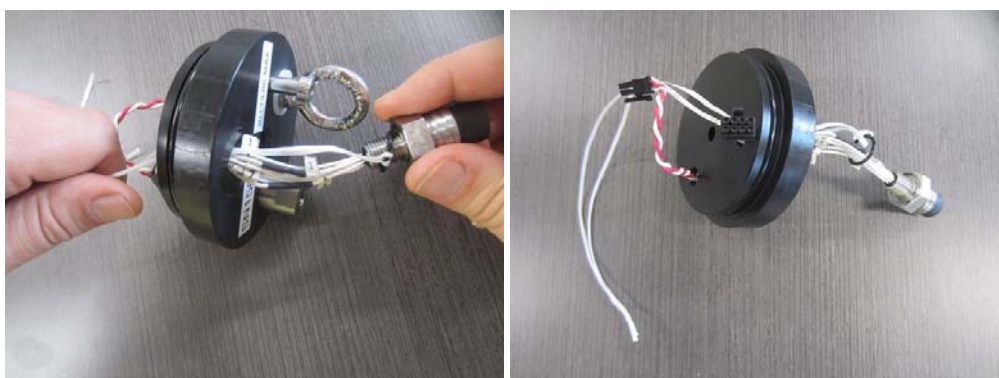

Figure 36: Removal of an O-ring from an MCBH connector (a MicroCTD is pictured).
- Bulkhead Connector(s):** To remove the connector O-rings, thread string around the O-ring and pass both ends of the string through the threaded hole (Figure 36). Gently pull on the string to pass the O-ring through the hole and around the wiring harness. Reverse these steps to replace this O-ring.